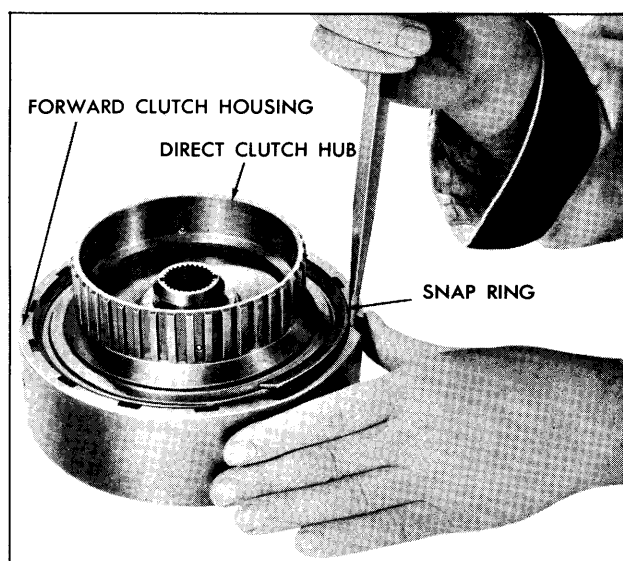

Fig. 7E-146 Removing Snap Ring
2. Install the driven gear into the pump body. (Fig. 7E-140)
3. Install the drive gear into the pump body with drive tangs up. (Fig. 7E-139)